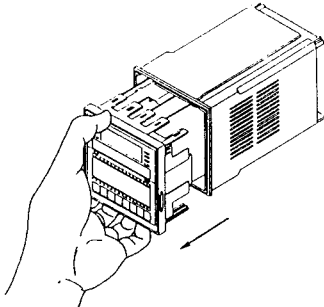
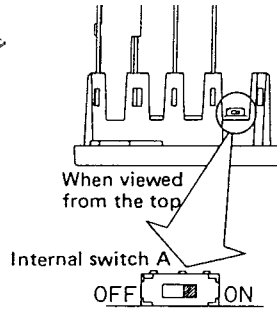

Fig. 1
Fig. 2
As shown in Fig. 1, pull out the internal chassis from the housing while pushing up the stopper at the bottom of the instrument with fingers. Thus, it can be withdrawn from the housing. Next, as shown in Fig. 2, turn ON the internal switch A at the top of the instrument, then push the internal chassis into the housing. Thus the instrument is set to the user initial setting mode.
In order to exit from the user initial setting mode, turn OFF the internal switch shown in Fig. 2.
Pull the internal chassis from the housing as shown in Fig. 1, turn the internal switch B on the top of the instrument to ON as shown in Fig. 3, then return the internal chassis to the housing. Turning the power supply ON causes the display units to display parameter as shown in ① below. Pressing the **[SET]** key starts adjustment, and the display automatically changes in the order of ① → ② → ③ → ④ shown below. Adjustment is complete when display ④ appears. Then, turn the internal switch B shown in Fig. 3 to OFF to return to the normal status.
* If instruments are mounted just along the sides of the controller, no pattern card can be inserted into the controller. Therefore in this case, slightly pull out the internal chassis of the controller as shown in Fig. 1 and then insert the card into the controller.